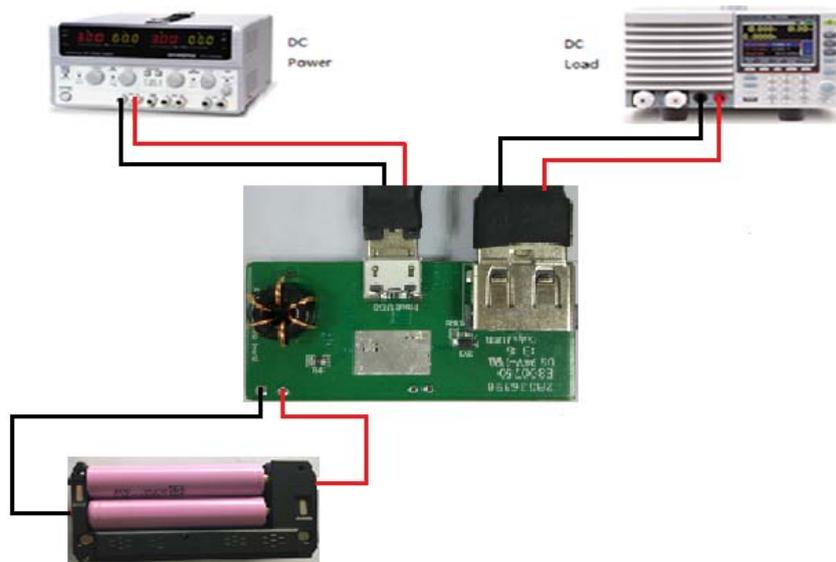

Figure 3 – EVK Setup
3. Connect battery across C9 terminals as shown in Figure 3. Pay close attention to the battery polarity.